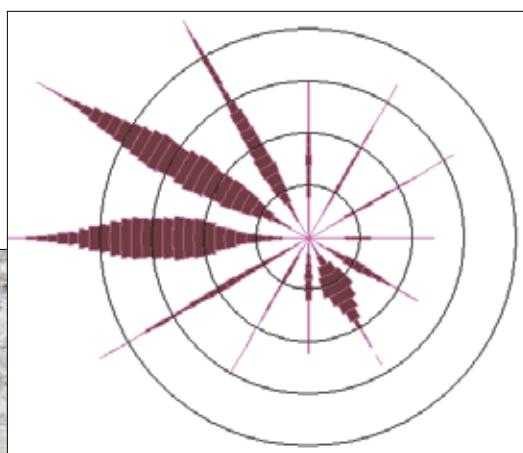

Figure 3—This wind rose indicates that wind is dominant in the west.
**Turbine Spacing:** How far apart to space turbines is defined by the characteristics of the wind for the site. The modeler will define a minimum and maximum turbine spacing based on the wind rose. For example, the wind rose in figure 3 indicates that wind is dominant out of the west, and little to no wind is coming out of the north or south sectors. The spacing would therefore be higher in the west–east direction than in the north–south direction. Defining how far apart turbines are spaced is important, because if turbines are placed too closely together, they begin to affect each other with turbulence and